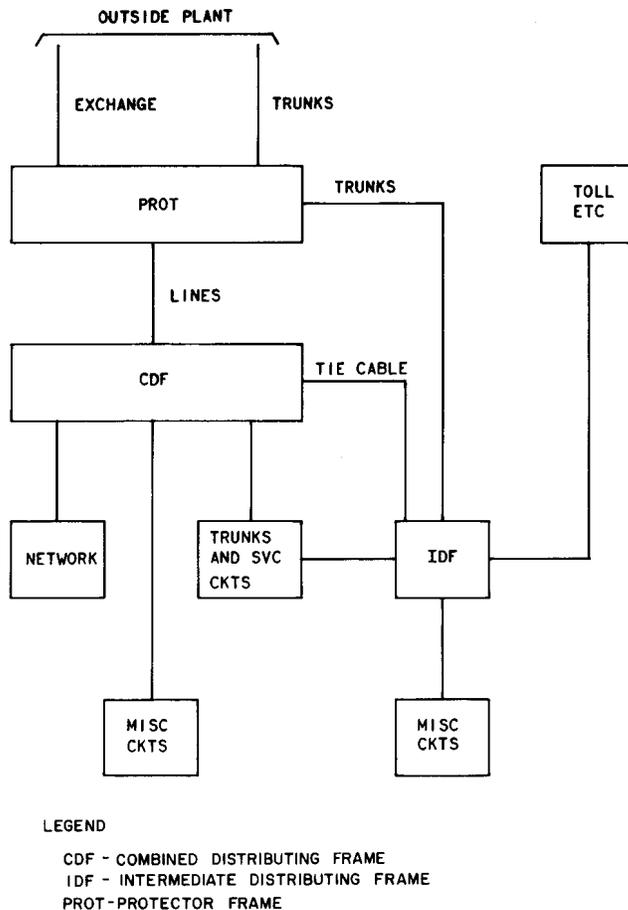

Fig. 1—Combined Distributing Frame—Intermediate Distributing Frame Cable Plan
2.01 In No. 2/2B ESS, modular type distributing frames are usually used to interconnect outside plant facilities, trunk circuits, service circuits, miscellaneous circuits, carrier circuits, and network circuits. Figure 1 illustrates how the various modules are cabled together. The protector frame (PROT), the combined distributing frame (CDF), and the intermediate distributing frame (IDF) are of primary concern to the plant assignment office. The CDF is the frame on which most central office jumpers will be placed. It contains terminations of exchange customer cables, terminating equipment networks, and some miscellaneous central office equipment. In some cases, tie cable pairs are necessary between the CDF and IDF for certain types of equipment.